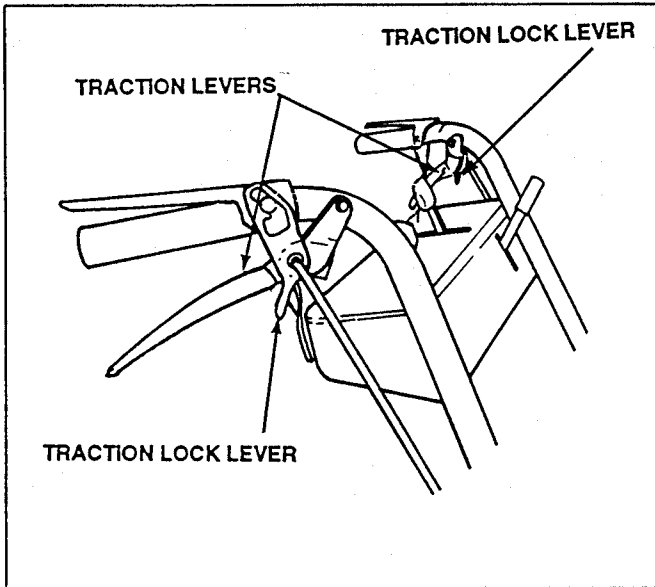

FIGURE 15
b. Pull the Blade Clutch Lever backward to the OFF position. See Figure 15.
- 7b. **PISTOL GRIP - TO STOP MOWER**, simultaneously squeeze both Traction Levers firmly against the handlebar while pulling the Traction Lock Lever rearward with index finger until latched. See Figure 15.